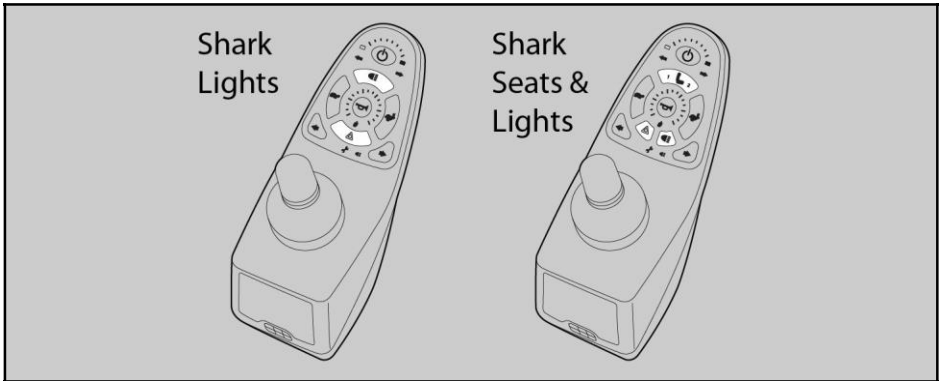

Figure 1.1
There are many different control systems for wheelchairs on the market. If the controller on your wheelchair does not resemble the one in figure 1.1, contact your dealer.
- Lights (I in figure 1.1)
- Hazard Lights (J in figure 1.1)
- Direction indicators (K1 & K2 in figure 1.1)